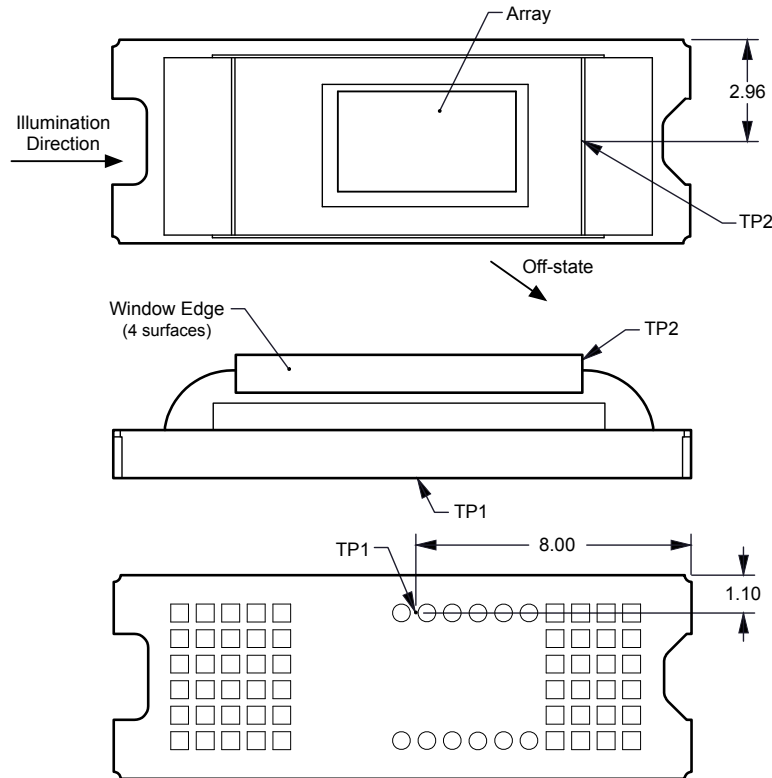

Figure 7-1. DMD Thermal Test Points
Micromirror array temperature cannot be measured directly, therefore it must be computed analytically from measurement points on the outside of the package, the package thermal resistance, the electrical power, and the illumination heat load. The relationship between array temperature and the reference ceramic temperature (thermal test point TP1 in Figure 7-1) is provided by the following equations:
- T_{CERAMIC} = Measured ceramic temperature ($^{\circ}\text{C}$), TP1 location in Figure 7-1
- Q_{ARRAY} = Total (electrical + absorbed) DMD power on array (W)
- $Q_{\text{ELECTRICAL}}$ = Nominal DMD electrical power dissipation (W)